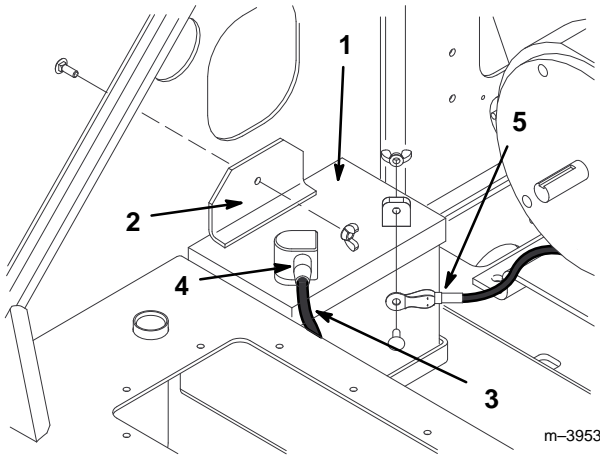

Figure 2
2. Remove the wing nut and bolt securing the battery clamp and strip (under the clamp) and remove the clamp and strip (Fig. 2).
8. Install the battery into the chassis (Fig. 2).
9. Secure the battery in chassis with the battery clamp (Fig. 2).
10. Using the bolt and wing nut supplied with the battery, connect the positive (red) cable to the positive (+) battery post (Fig. 2). Slide the rubber cover over the battery post.
11. Using the bolt and wing nut supplied with the battery, connect the negative (black) cable to the negative (-) battery post (Fig. 2).